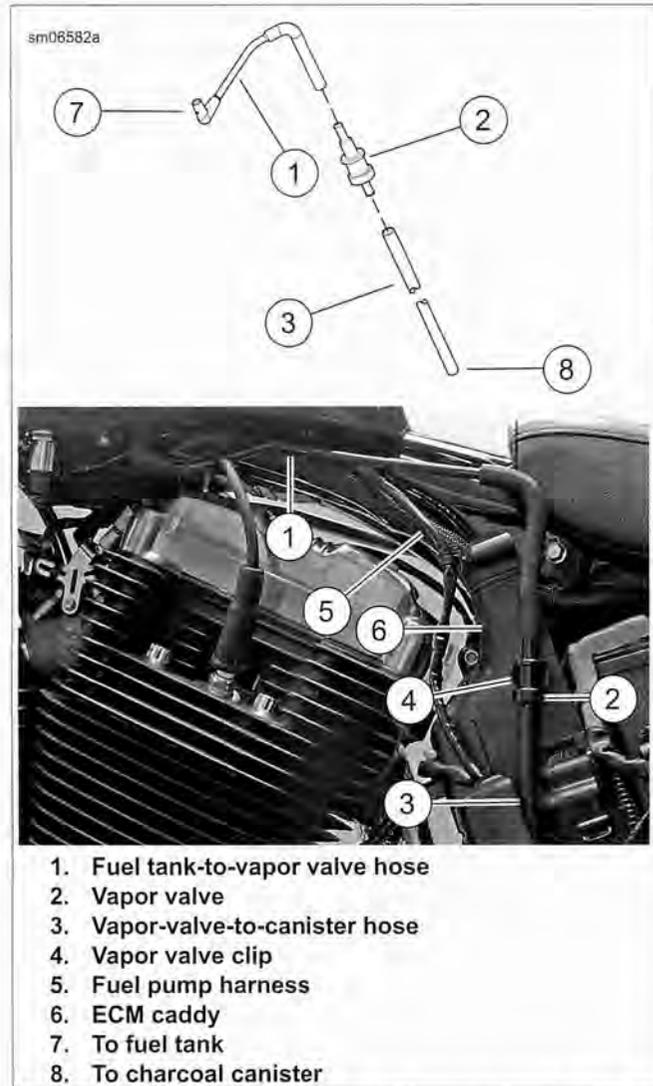

Figure 4-87. Vapor Valve and Hose Routing: XL EVAP Models
2. See Figure 4-87. Carefully remove vapor valve (2) from clip (4) molded into the ECM caddy (6).
1. See Figure 4-87. Hold vapor valve (2) in an upright position with the long necked end pointing up. Insert top fitting of vapor valve into fuel tank-to-vapor valve hose (1). Install bottom vapor valve fitting into vapor valve-to-canister hose (3).
2. Carefully push body of vapor valve into clip (4) molded into the ECM caddy (6).